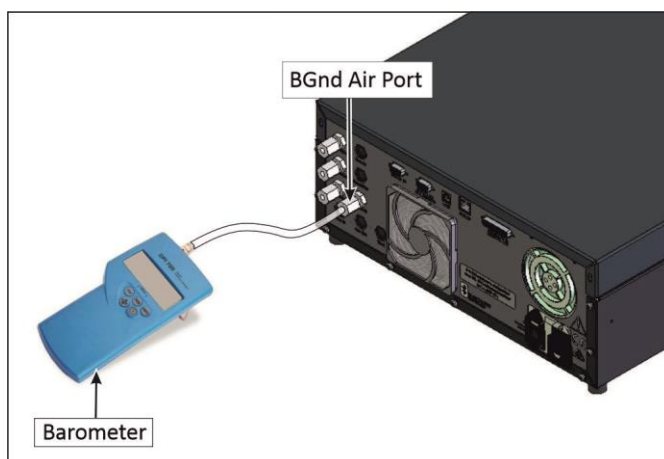

Figure 109 – Pressure Calibration (Internal Pump Option Only) Set-up
4. Refer to Figure 109. Connect a barometer to the **BGnd Air Port**.